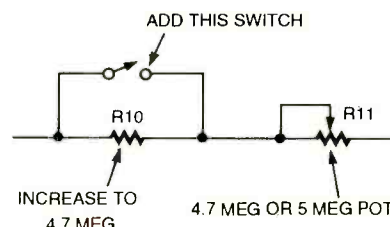

Fig. 6. The schematic above shows the addition of a SPST switch in parallel with R10.
**The Depth Control.** A 10-megohm potentiometer for R11 gives the widest range of control, but 5 megohms is the highest value I've seen in current catalogs. One work-around is to use a 5-megohm potentiometer and increase R10 to 4.7 megohms. Then add an SPST "range" switch wired to short out R10. This arrangement is shown in Fig. 6. If you're really determined, you can create a 10-megohm potentiometer as I did by modifying the 4.7-megohm unit called out in the parts list. Bear in mind that not every make of control will permit this mod; if you want to try it, order the one specified. After you cut the shaft down to ⅜-inch long, remove the resistive element by prying up the tabs that hold the pot together. The element is the semi-circle of carbon composition material that has been painted on the phenolic base that also holds the contacts. Measure the resistance of the element by putting an ohmmeter across the outside terminals and then sand the carbon a few strokes—very evenly and gently and from end to end—with 220-grit paper. Repeat the process until you have the maximum resistance you need. Clean the element with a Q-tip moistened with acetone and then re-assemble the control.